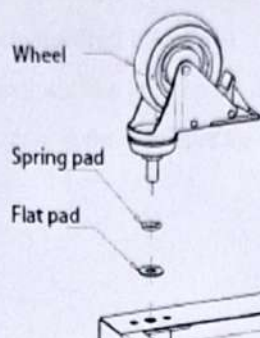

Figure 5-1 Caster installation diagram
1、Install the 4 casters as shown in Figure 5-1 and tighten them with a 22mm open-end wrench.